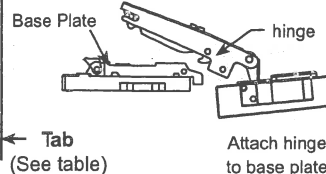

Fig 8
1. With the door fully extended, visually inspect the gaps between the door and the top and bottom skid blocks. Adjust the hinges (adjustment screw A) until the door is centered between the skid blocks. See Figure 8.
5. extend the door, and check to see that the door pivots to the closed position without interfering with the cabinet. Adjust the hinge outward (adjustment screw B) to ensure swing clearance. See Figure 8.
6. Adjust the hinge left-to-right (adjustment screw C) to square the door to the opening. See Figure 8. If more adjustment is required, loosen the front mounting bracket screw and move the slide left or right.